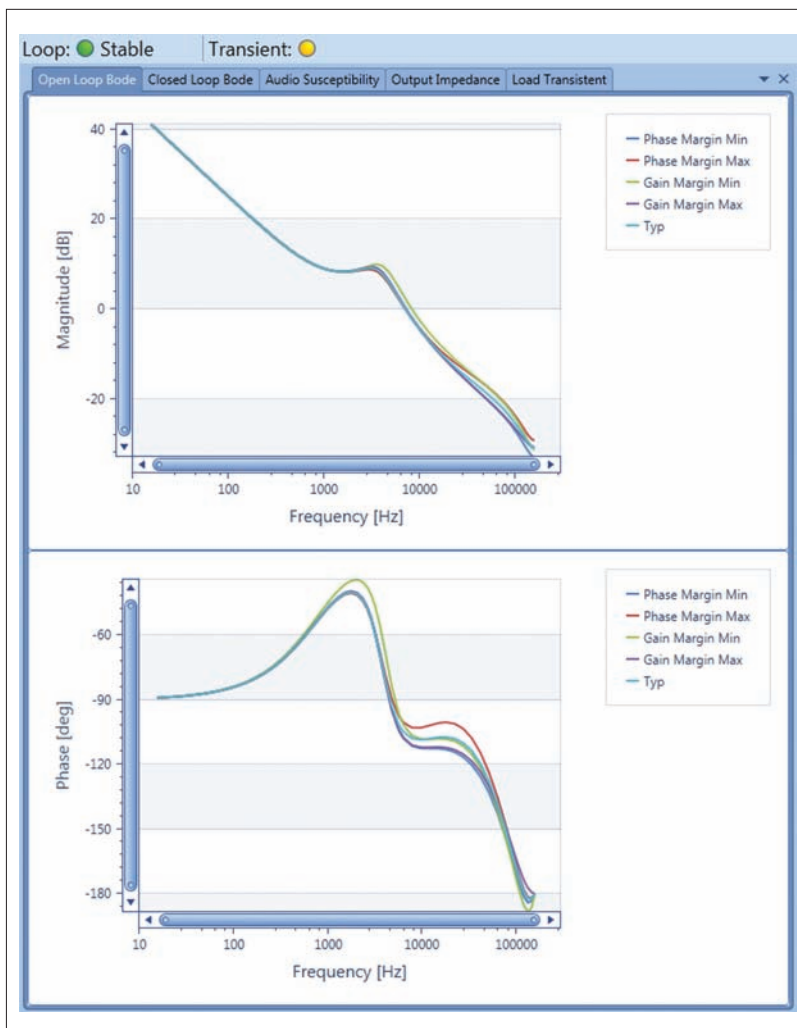

Figure 5: Open loop Bode plot
the effective  $R_{th}$  per chip can be reduced by a factor of up to 4 due to heat spreading effects, as shown in Figure 5 (base-plate-free module).
**ABOVE Figure 5:** Effective thermal resistance for a configuration in a base-plate-free module. Setup shown on the right side. A 0.32 mm thick ceramic with 0.6 mm Cu on both sides is assumed
A common tool for open loop design is the Bode plot, shown in Figure 5, in which the compensation zeros are placed to obtaining the proper behavior and adjust the gain to meet the robustness requirements in terms of phase and gain margins. Common values for these requirements are 60°, and 6 dB, respectively.